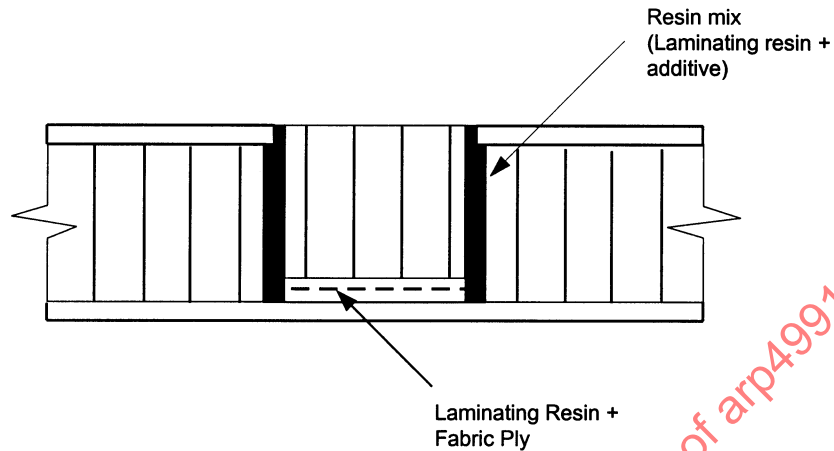

FIGURE 9 - Full Depth Core Restoration With Honeycomb - Method 2
5.3.6 Full Depth Core Restoration With Honeycomb - Method 2 (Figure 9): This method uses a laminating resin as the common material for the honeycomb splicing and the bonding to the existing skin. For splicing the core, the resin should be mixed with an additive. For the bonding to the existing skin, a ply of fabric impregnated with resin is used (style 1581 or 7781 glass fabric or the skin repair material).